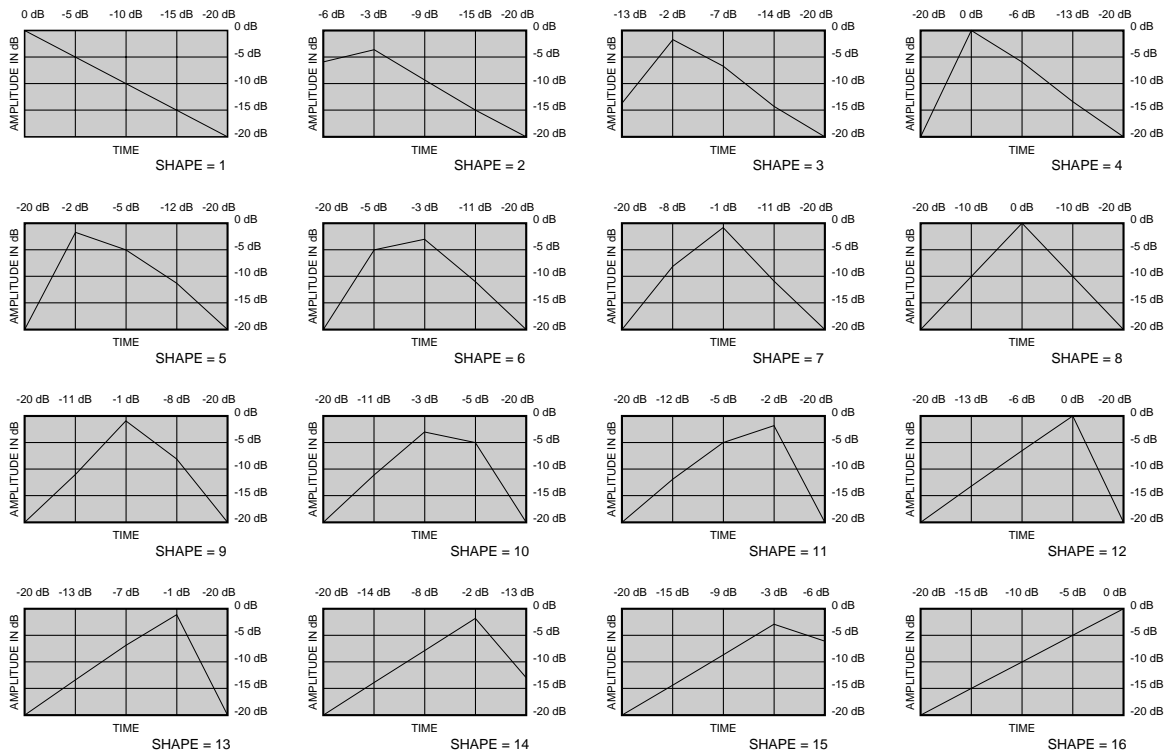

Fig 3-6
**ER Shape:** Controls the shape of the early reflection envelope. There are 16 different early reflection envelope shapes. See fig. 3-6. The numbers across the top of each envelope shape graphic represents the level (relative to unity gain) of the signal at each point in the envelope.